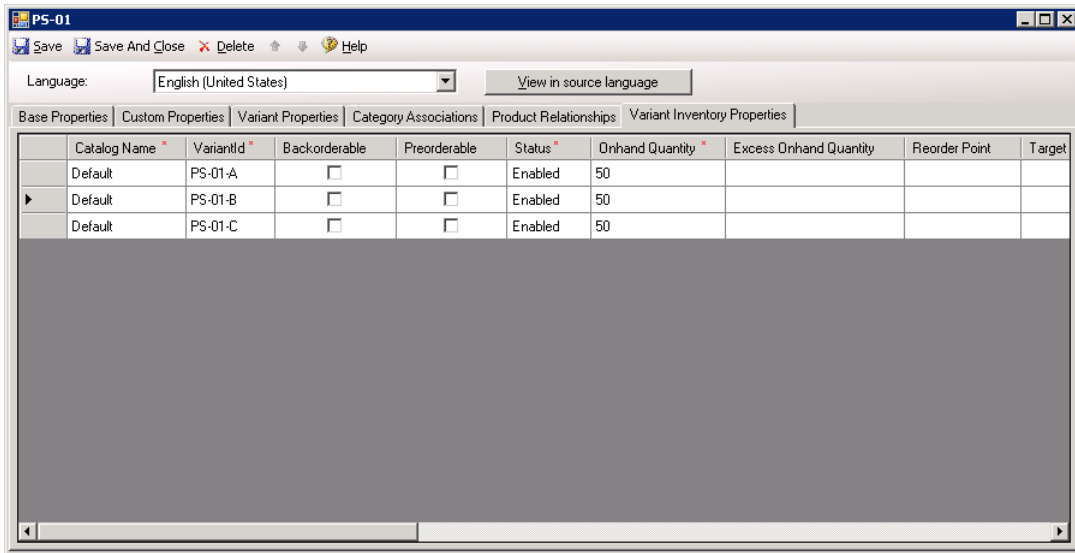
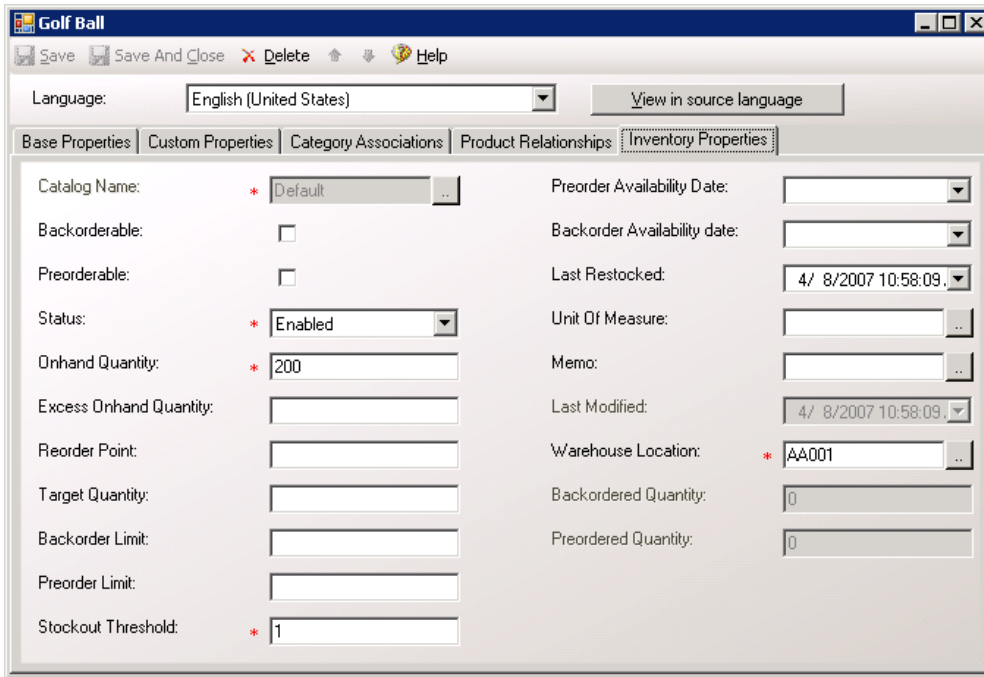

Figure 4-10
Figure 4-11
6. On the Variant Inventory Property tab (Figure 4-10) you will see a grid that contains all the variants in rows and all the inventory SKU metadata as columns (Figure 4-10). For a non-product variant catalog this tab is called Inventory Properties (Figure 4-11). By default four inventory SKU properties are required: Status, Onhand Quantity, Stockout Threshold, and Warehouse Location (the property definition you added to the inventory SKU metadata). Enter values for each of the variants. Make sure to set the status to Enabled, the onhand quantity greater than 0, and the stockout threshold to 1 (indicating that there must be at least one SKU available to be considered in stock).